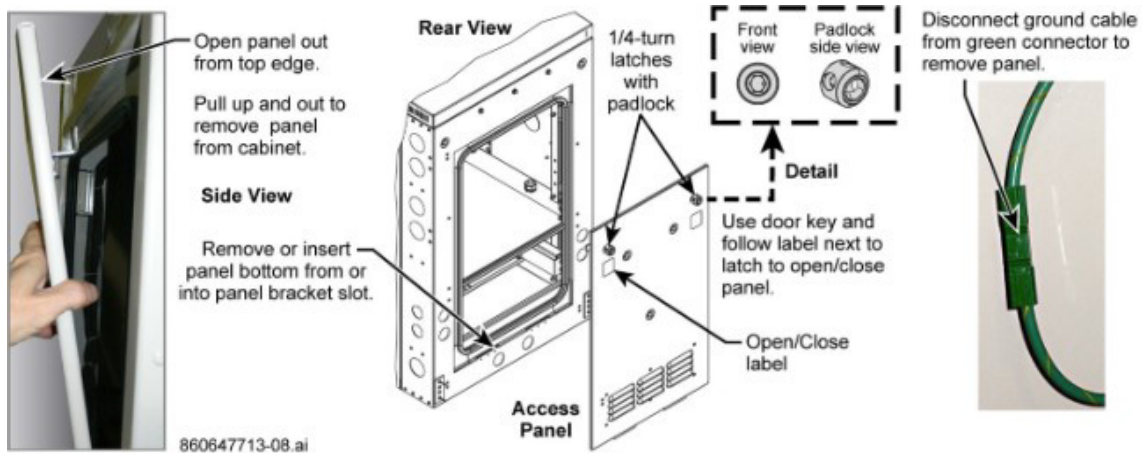

Figure 8. Rear Access Panel Removal and Installation, Ground Cable Disconnect
Prior to panel removal or installation, use door key (Figure 10) that ships with cabinet to open or close 1/4-turn latches when removing or installing a panel, Figure 8.
- To remove the panel from the cabinet, disconnect ground cable from the green connector shown in Figure 8. Prior to replacing the panel, make sure to reconnect ground cable to green connector.